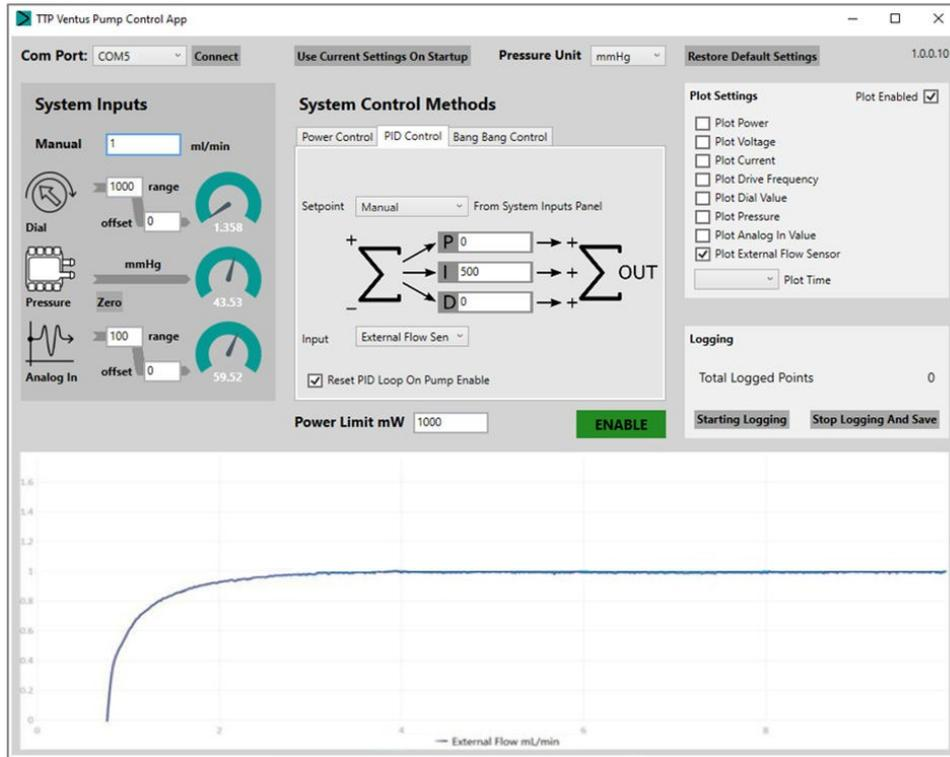

Figure 6: LEE Ventus Pump Control App
- Using the System Inputs panel, enter your desired flow rate into the Manual entry box, such as 1 ml/min as in the in Figure 6.